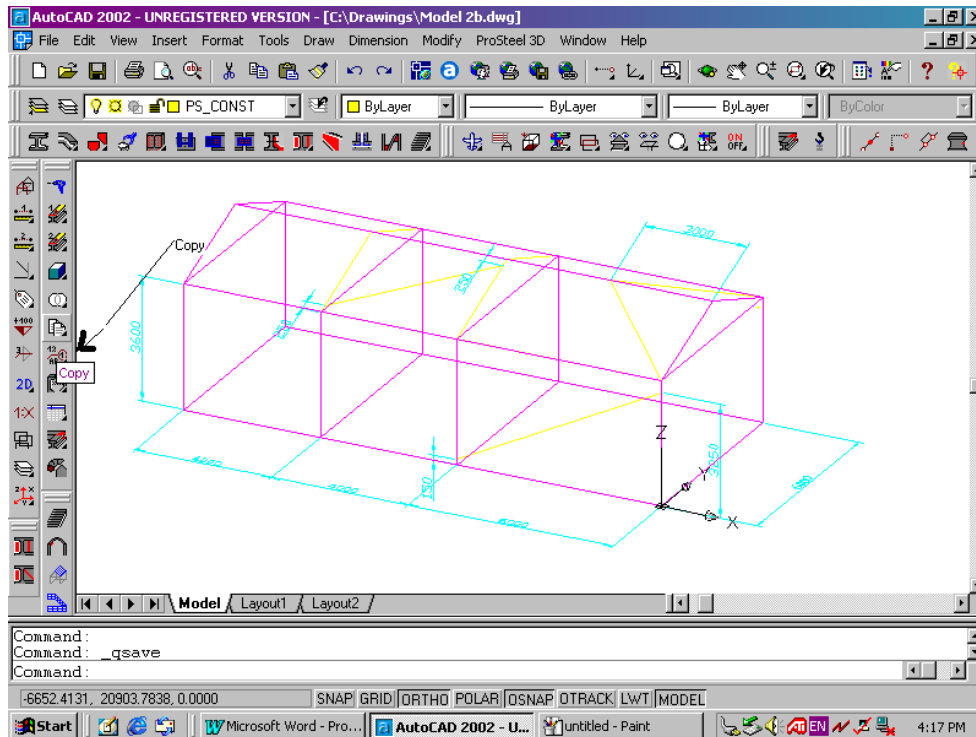

Fig 5
1. Copying frames and columns ie. "ProSteel Objects" is one way to go, however they don't show if shaded unless drawing is reopened and also the logical link is lost. So in most cases, if copying, only copy whole groups using ProSteel's copy command and make sure the logical link is still active. See Fig 5